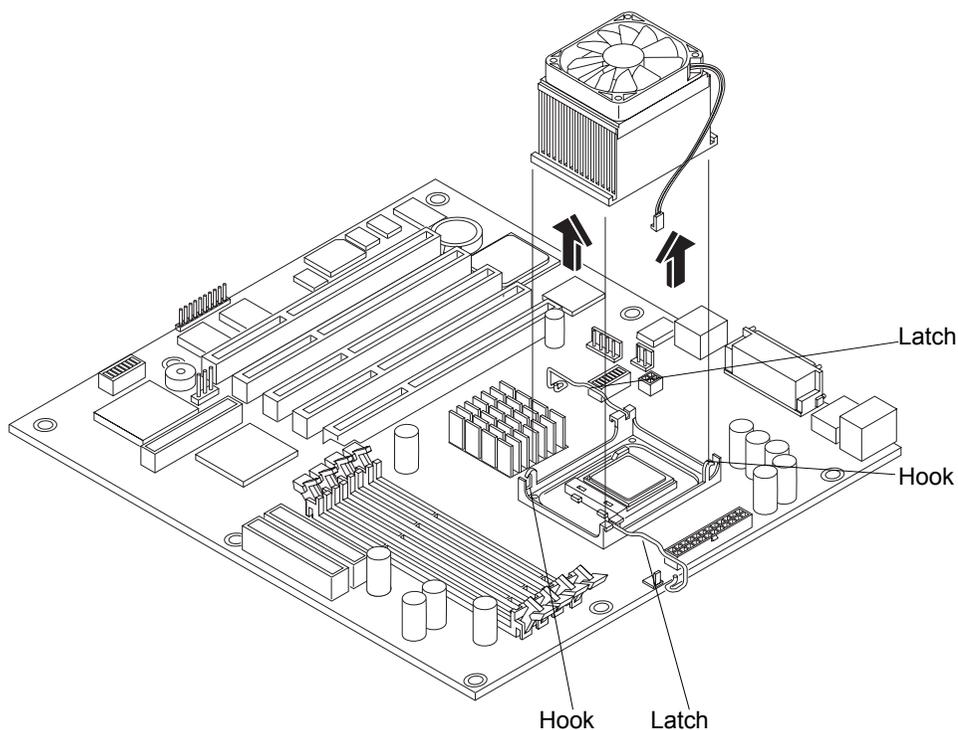

Figure 7-10. Removing Heat Sink and Cooling Fan
6. Open the heat sink release latches by pressing down on the latches and unhooking them from the heat sink bracket. Then, remove the heat sink by lifting it. See *Figure 7-10*.